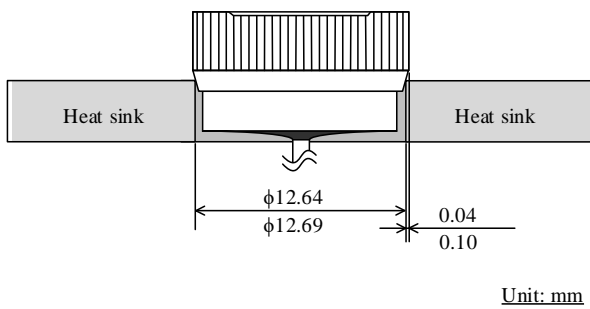

Figure 23 Recommended Hole Size and Interference
- Recommended hole size and interference: See Figure 23